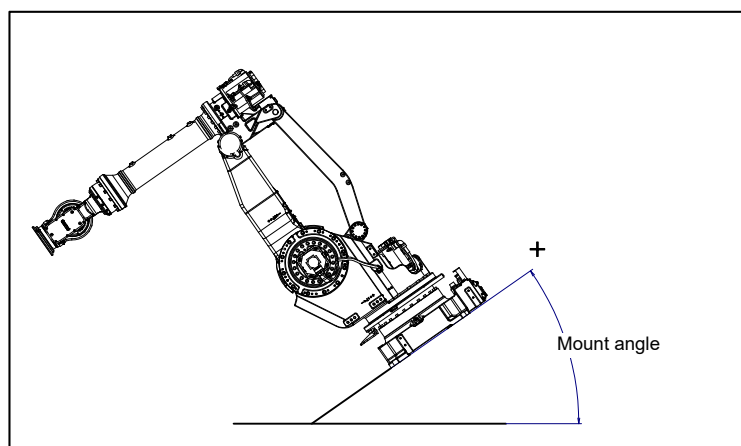

Fig. 10.2.2 (a) Mounting angle
- 6 Input the mount angle referring to Fig. 10.2.2 (a).